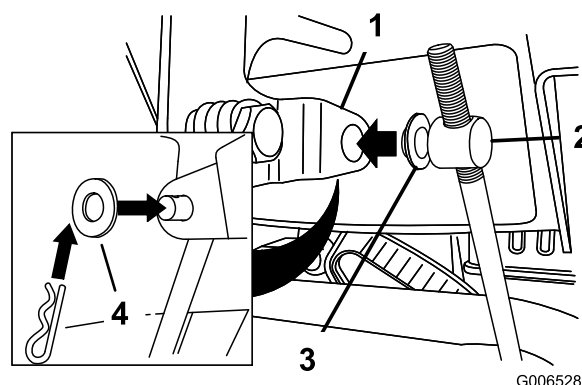

Figure 5
3. Place a flat washer on the trunnion (Figure 5).
6. Push down on the speed control rod and insert the trunnion into the hole in the speed selector lever (Figure 5).
- B. Disconnect the trunnion from the speed selector lever (Figure 5).
- C. Turn the trunnion upward (counterclockwise) on the speed control rod (Figure 5).
- D. Connect the trunnion to the speed selector lever (Figure 5).